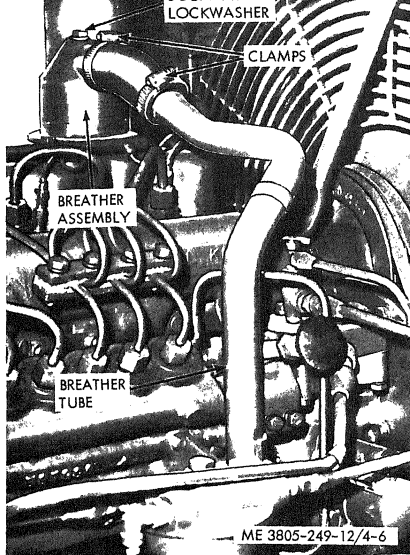

Figure 4-6. Crankcase breather.
(1) Disconnect the clamp (fig. 4-6) securing the breather tube to the breather assembly.